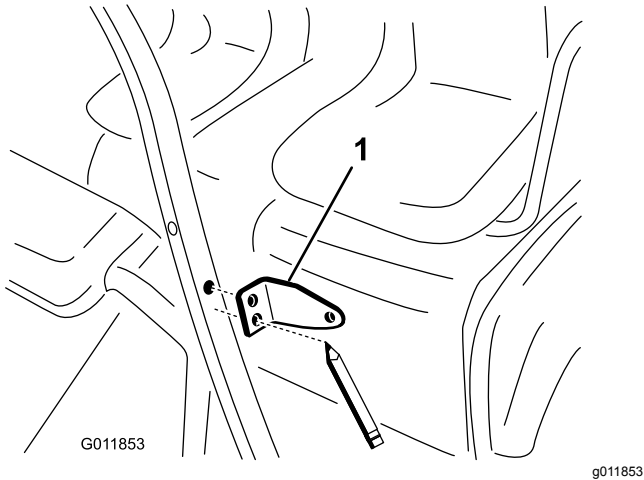

Figure 11
- Position the mirror mount onto the tube, aligning the top hole with the new hole in the tube (Figure 11).
- Using the mirror mount as a template, locate, mark, and drill the lower 8.3 mm (5/16 inch) diameter hole through both walls of the tube (Figure 11).